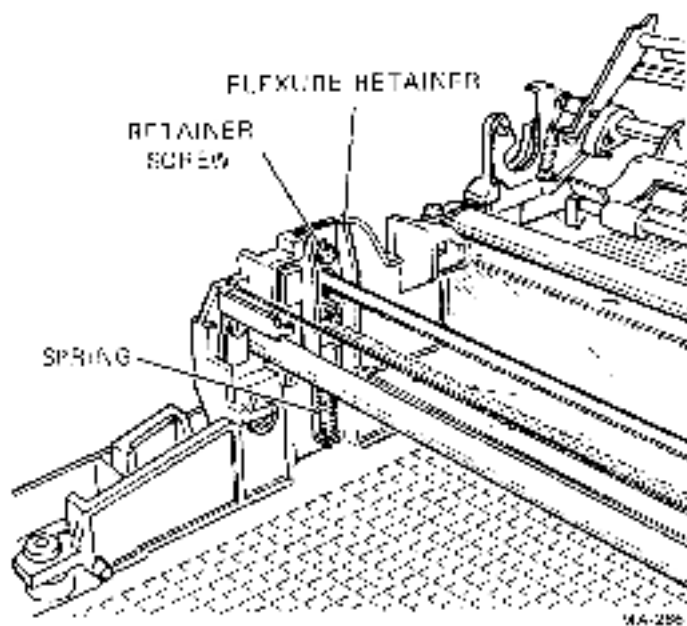

Figure 7-17 Pulley/Tension Assembly Removal
2. Remove the spring from the bottom of the idler stabilizer bracket (Figure 7-17).
3. Lift the idler stabilizer bracket assembly over the retainer screw (Figure 7-17).